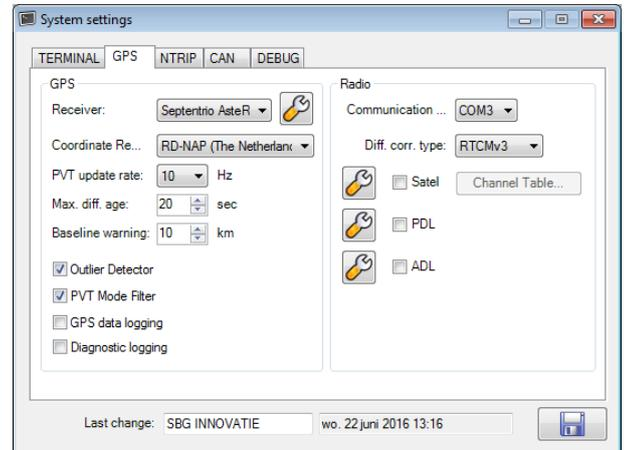

Figure 5 GPS settings without integrated or external radio modem.
In the GPS tab (Figure 5), the different types of supported GPS-receivers can be configured. Nearly all GeoSTAR 200 and GeoSTAR 250 terminals have a Septentrio AsteRx2e(H) GPS-receiver. The Viper 4 and Viper 4+ terminals have an integrated Septentrio AsteRx4 receiver.